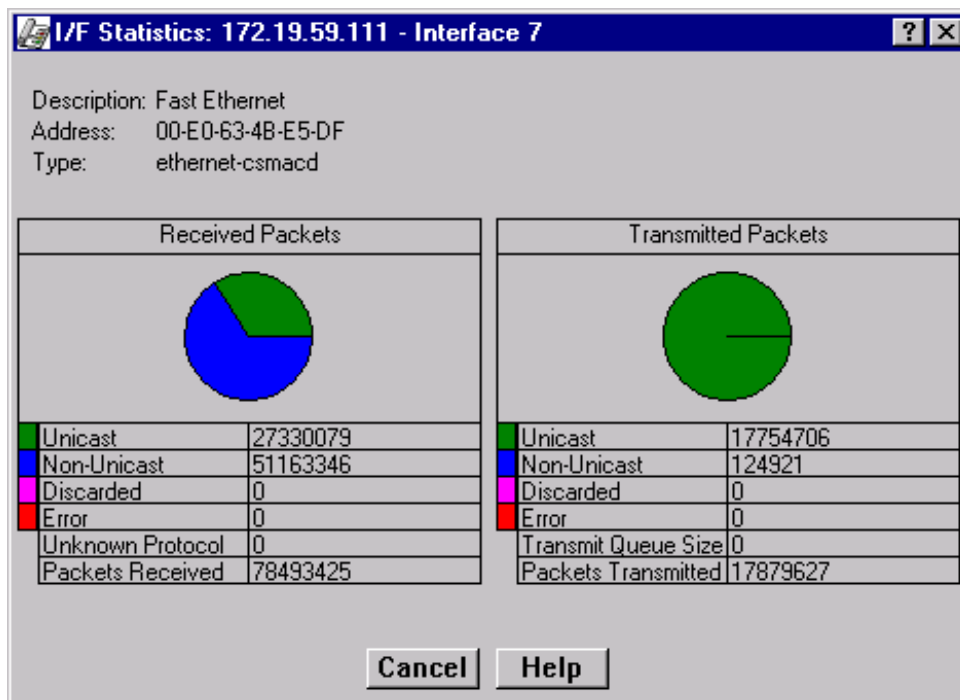

Figure 2-11. Detail Interface Statistics
The Interface Statistics window (Figure 2-11) provides detailed MIB-II interface statistical information — including counts for both transmit and receive packets, and error and buffering information — for each individual port interface. Color-coded pie charts also let you graphically view statistics for both received and transmitted Unicast, Multicast, Discarded, and Error packets.
2. Click on **Detail**. The appropriate I/F Statistics window, Figure 2-11, will appear.